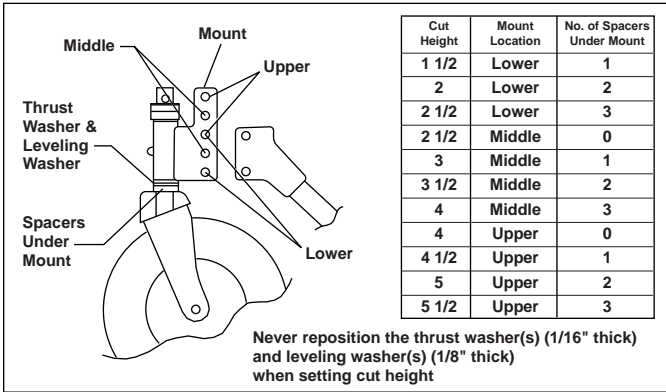

Figure 3E
2. **Figure 3E** shows the height adjustment decal for the casters.